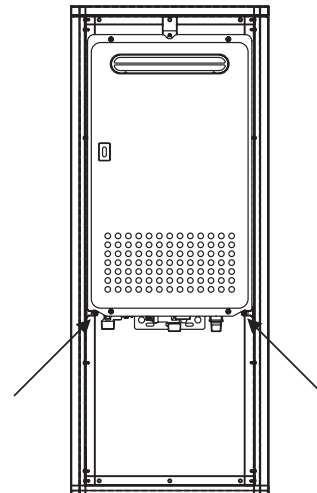

Figure 5: Location of lower mounting brackets.
- Finally, install the 2 remaining mounting screws in the lower recess box brackets and tighten all 3 screws to secure the heater (see Figure 5).